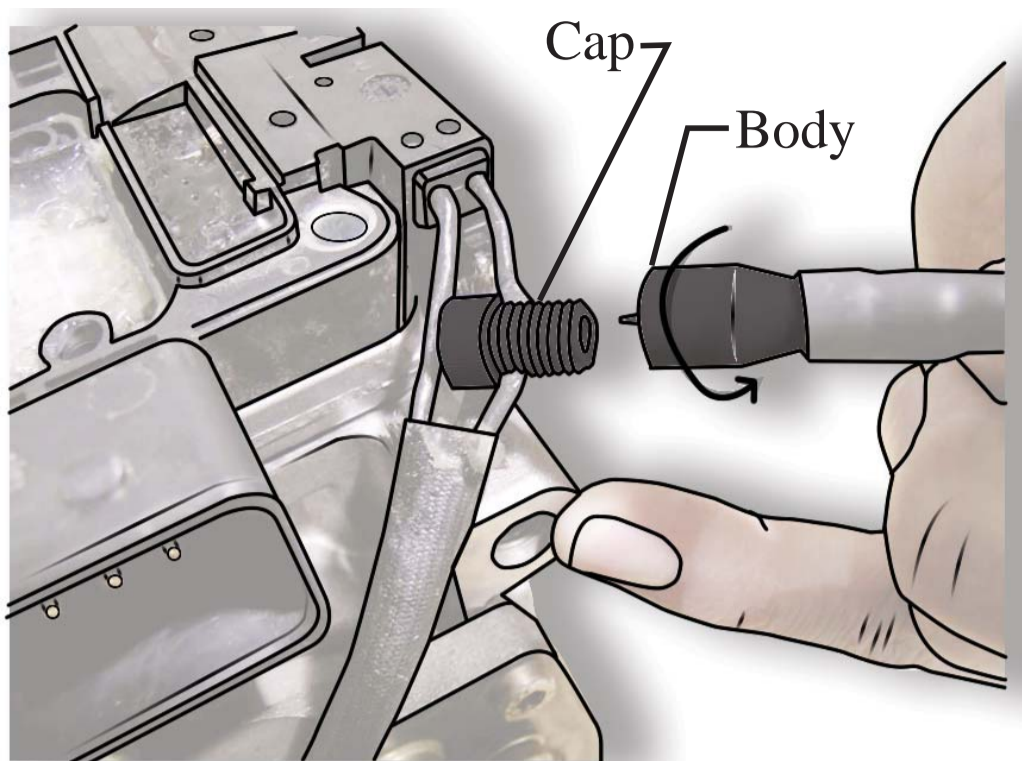

Figure 9 - PosiTap® Pre-Twist
6. Pre-twist the body of the Posi-Tap® counter clockwise with about seven full turns before twisting on to cap. (See figure 9)